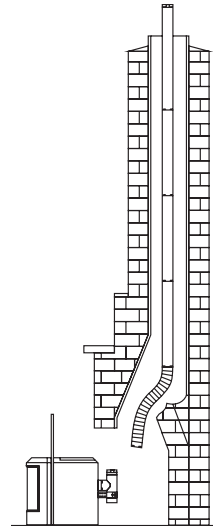

Figure 9
7. Repeat this process for the remainder of the pipe sections, and lower the assembly down the chimney as shown in **Figure 9**. Lower it below its normal position in order to connect the Flex Pipe to the pipe on the appliance. It may be necessary to tie a line to the top section, to pull it back up later.